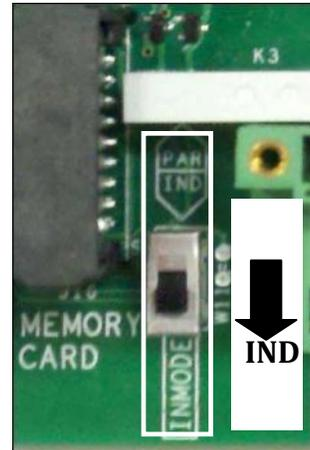

Figure 2.13 - Independent MPPT Configuration Switch
- Place switch “INMODE” (shown in Figure 2.13) in the “IND” (default position) position to configure the inverter controls in the independent mode.